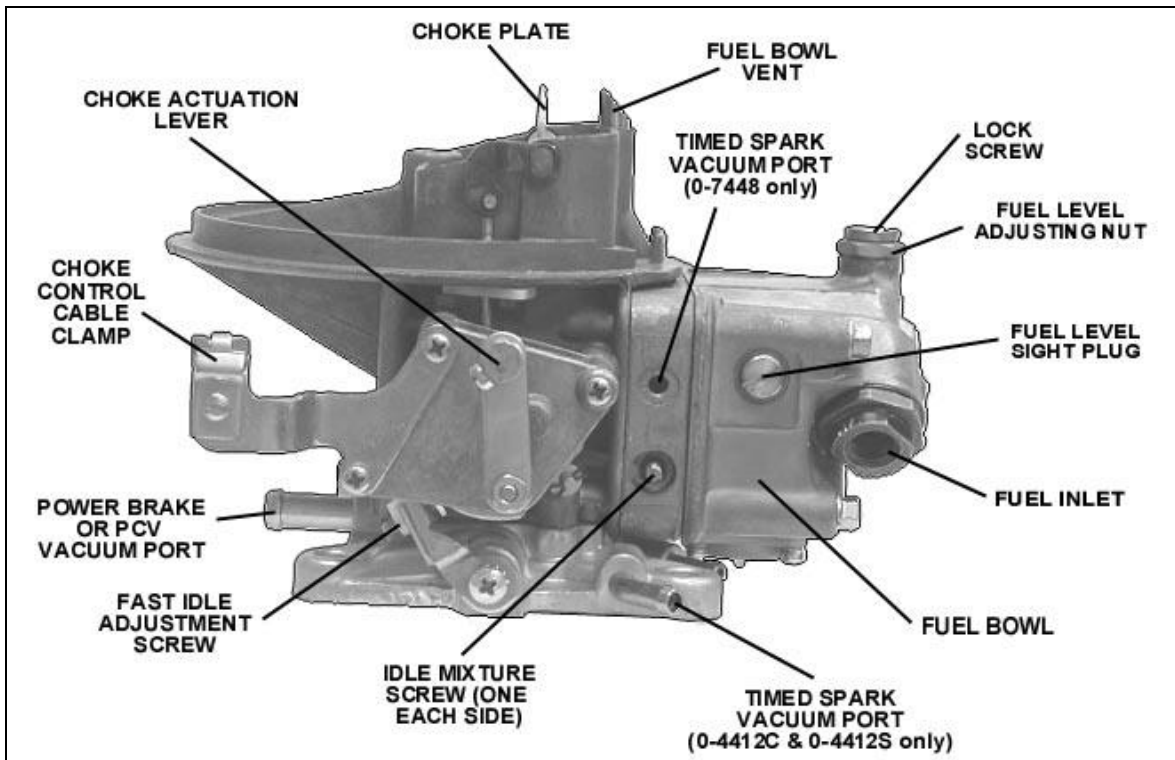

Figure 6
6. Reconnect the appropriate vacuum hoses to the carburetor, noting the correct fitting from Figure 6 and 7. Replace any cracked or dry rotted hoses at this time to prevent any vacuum leaks.
8. Connect the power brake hose to the fitting as shown in Figures 6 or 7.